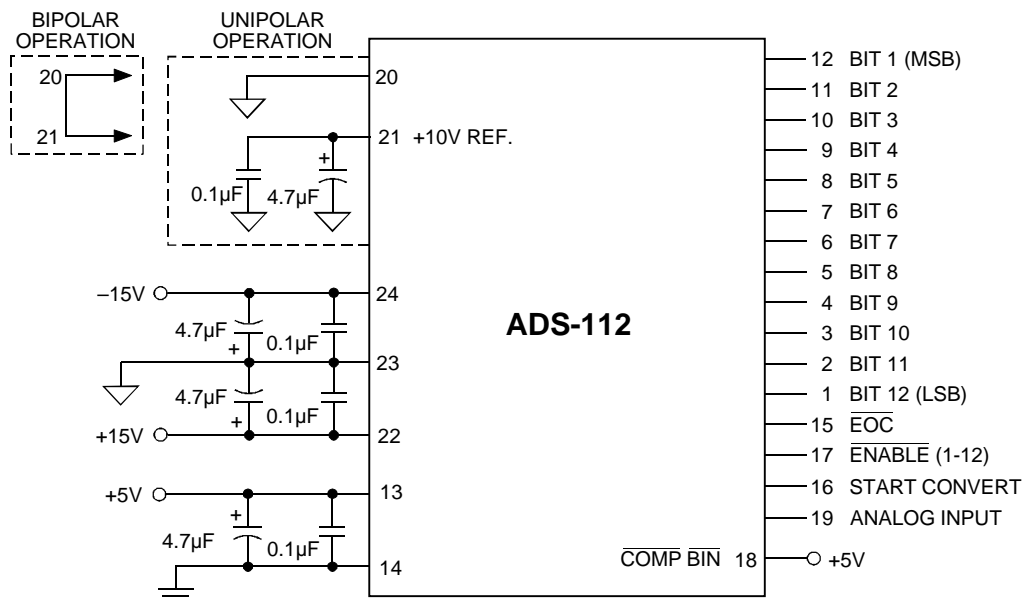

Figure 3. Typical ADS-112 Connection Diagram
1. Applications which are unaffected by endpoint errors or remove them through software will use the typical connections shown in Figure 3. Remove system errors or adjust the small initial errors of the ADS-112 to zero using the optional external circuitry shown in Figure 4. The external adjustment circuit has no effect on the throughput rate.
1. Connect the converter per Figures 3 and 4 and Tables 1 and 3 for the appropriate input range. Apply a pulse of 150 nanoseconds to the START CONVERT input (pin 16) at a rate of 250kHz. This rate is chosen to reduce the flicker if LED's are used on the outputs for calibration purposes.